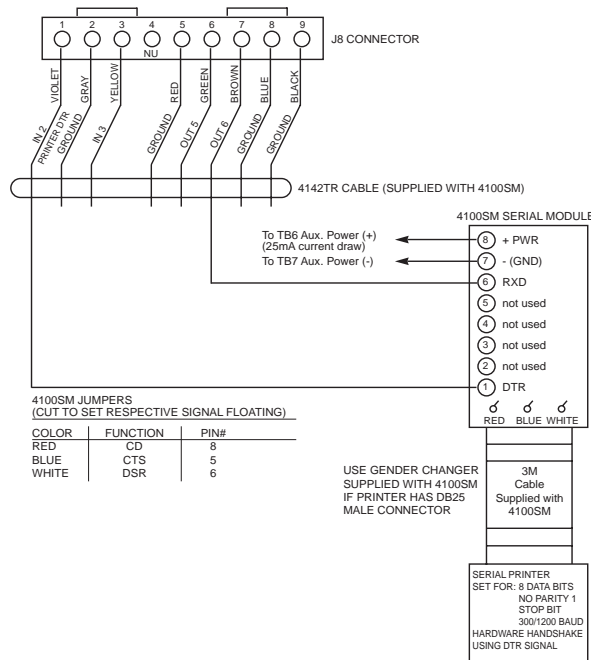

Figure 27. Event Log Printer Connections
- Mount the 4100SM using its clip bracket to attach it to the side wall of the control cabinet. Make connections between J8, the 4100SM module and the serial printer as shown in *Figure 27*. Refer to the event logging commands paragraph for a description of the commands which initiate event log printing.